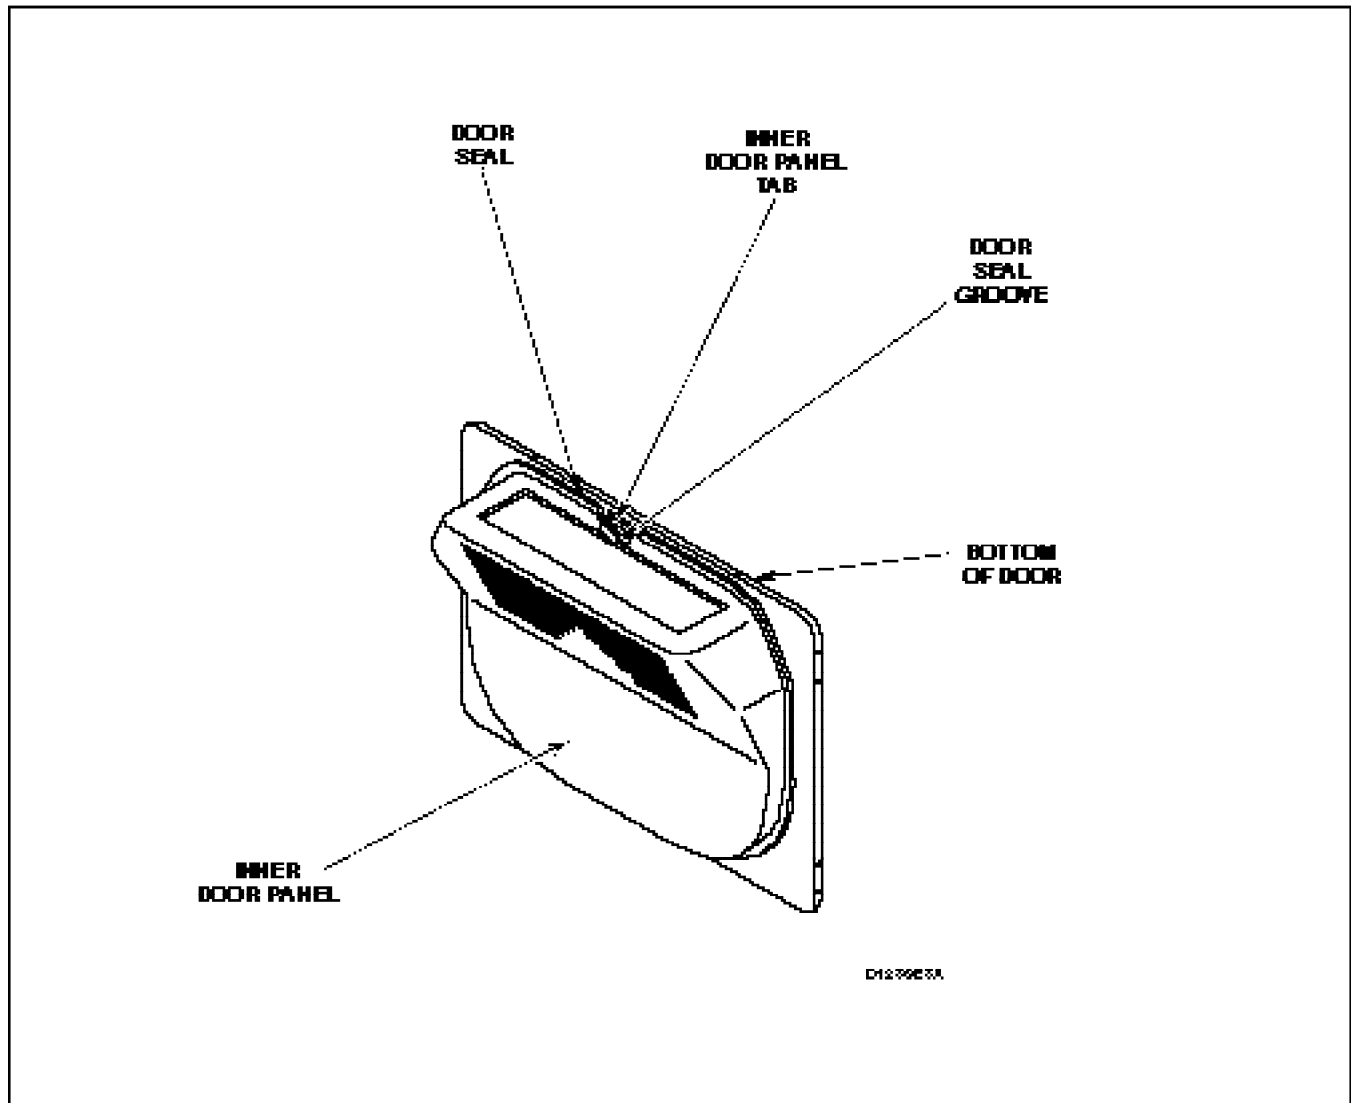

Figure 20
- Grasp either end of door seal at bottom of door and remove seal from tabs on inner door panel by gently pulling on the seal, *Figure 20*.
NOTE: When replacing seal, be sure seal is not stretched or distorted and the groove in the seal is installed on each tab on inner door panel, *Figure 20*, and the split in the seal is at the bottom of the door.